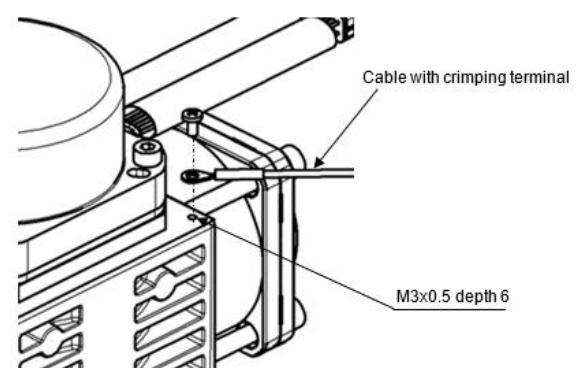

Figure 2
- Connect the grounding cable to the compressor to shield the brushless motor from electric noise. Use M3 x 0.5 screws. See Figure 2.